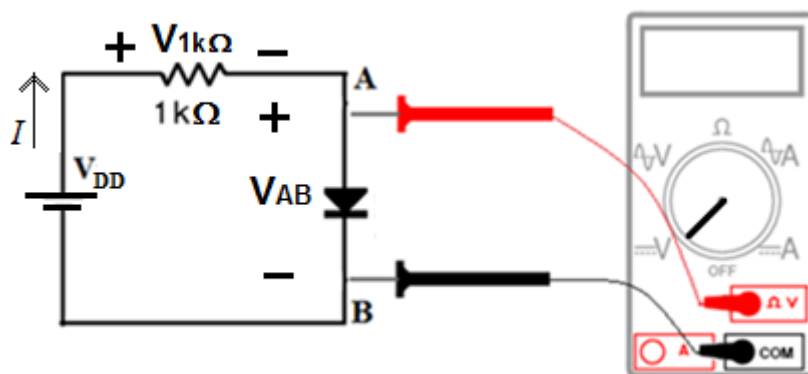

FIGURE 1.2 Exploring the essence of the diode function.
6. Connect the circuit shown in Fig. 1.2.